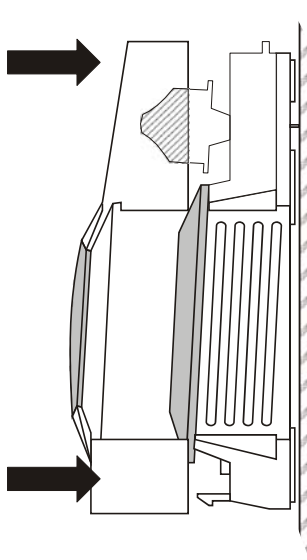

Fig. 5. Replacing of housing cover
4. Return cover to housing by snapping it into place as shown in Fig. 5.